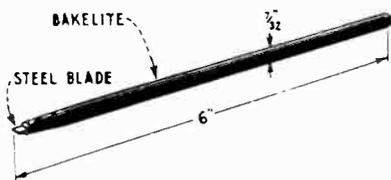

Figure 10—Dimensions of the non-metallic screw driver
- (a) Procure a long, thin, non-metallic screwdriver (See Figure 10).